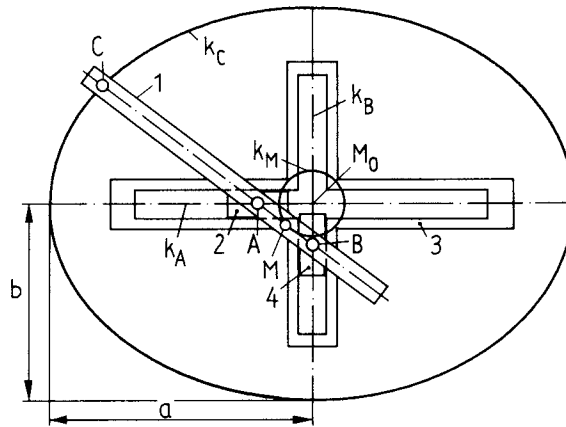

Figure 1. Trammel or Ellipsograph.
Imagine that we inverse the trammel mechanism (Figure 3): Lock the arm (1) in place and make the frame (3) with the track-cross and the ellipse fixed, not movable. That means the trammel arm (1) (Figure 1) becomes the frame (1) (Figure 3) of the oval-lathe mechanism, and the trammel frame (3) (Figure 1) is now the